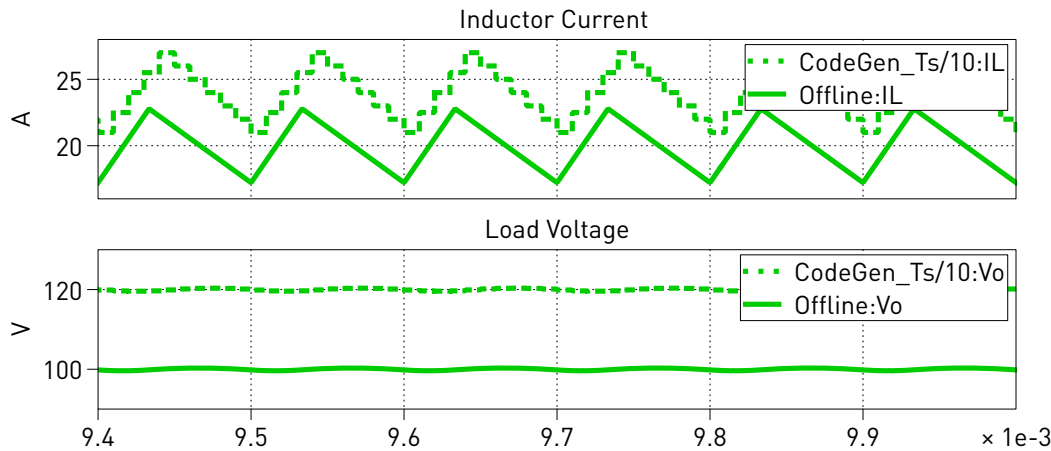

Figure 4: Current and voltage waveforms for the offline and CodeGen simulations using digital inputs
- 7 Rerun the CodeGen simulation with the following discretization times and save the traces: $20e-6$ s, $5e-6$ s, and $1e-6$ s. See Figure 4 for a comparison between the steady state voltages and currents between the offline simulation and the “CodeGen_Ts/10” results.